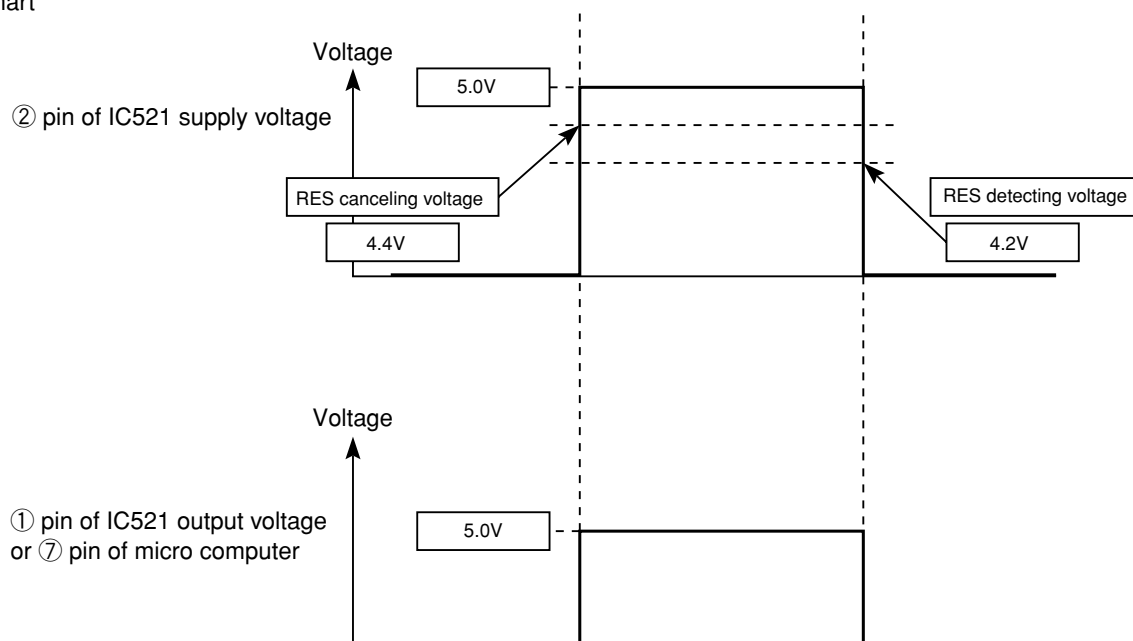

Fig.2-2
- Micro computer operates when ⑦ pin of the indoor unit micro computer (reset input) is "Lo" for resetting and "Hi" for hitting.
- Waveform of each part when switching ON the power and when shutting down is shown in the Fig. 2-2.
- After switching ON the power, ① pin of IC521 and ⑦ pin of micro computer becomes Hi when DC5V line rises and reaches approximately 4.4V or higher.